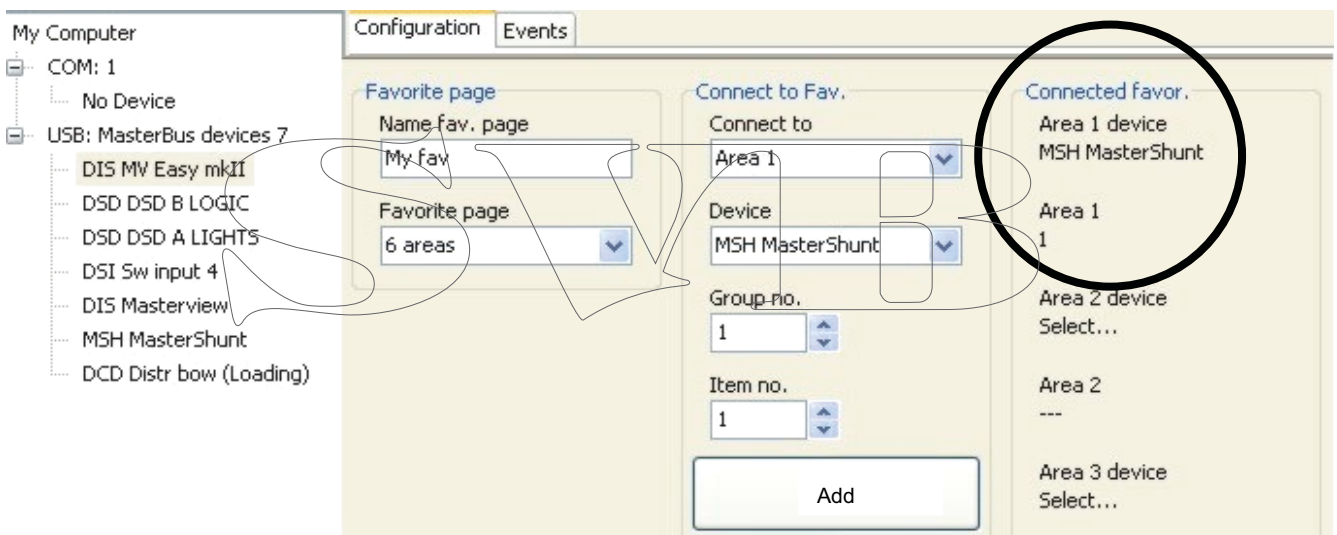

Figure 15: Favourites page configuration
See figure 15. The item selected is being shown under *Connected favor.* The *Area 1 device* is the MSH MasterShunt. The 1 under *Area 1* is the *Index*. It shows the item you added is available and the connection with the device is present. You can check the index by selecting the menu of the according device and mouse over the item (in this example the MSH MasterShunt: group 1 is Monitoring and item 1 is the State of Charge).